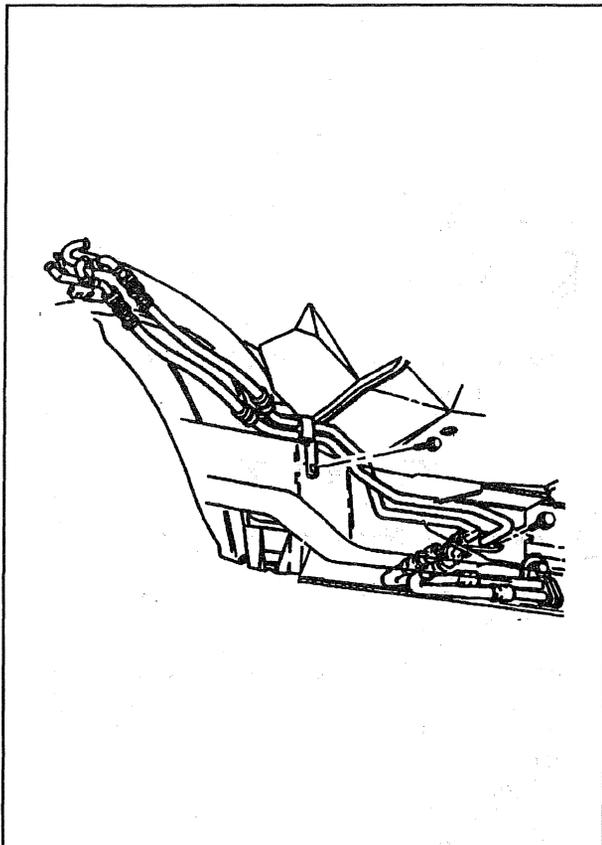

Figure 24—Auxiliary Heater Hose Assembly Routing (Front) (Gas Engine)
↔ Remove or Disconnect (Figure 24)
↔ Install or Connect (Figure 24)
↔ Remove or Disconnect (Figures 24 and 25)
3. Rear hose assembly from front hose assembly (figure 24).
Install or Connect (Figures 24 and 25)
1. Rear hose assembly to front hose assembly (figure 24).